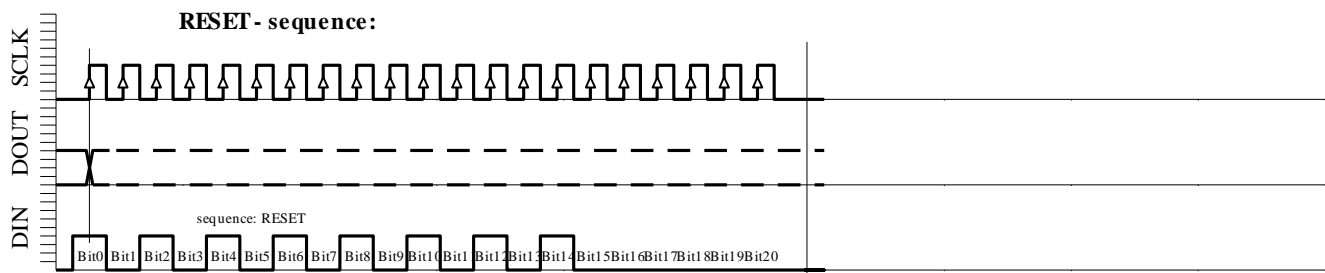

Fig. 6e: RESET sequence (21 bit)
- ✦ RESET sequence (Figure 6e)
The RESET sequence is special as the module in any state recognizes its unique pattern. By consequence, it can be used to restart if synchronization between the microcontroller and the MS5540C has been lost. This sequence is 21-bit long. The DOUT signal might change during that sequence (see Fig. 6e). It is recommended to send the RESET sequence before each CONVERSION sequence to avoid hanging up the protocol permanently in case of electrical interference.